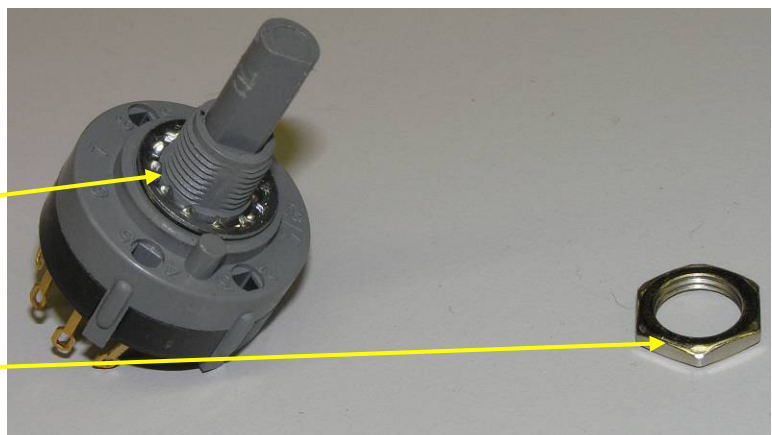

Figure 4: Rotating Switch Side View
7. Use an Allen wrench to loosen the hex head screw that secures the switch cap as shown in Figure 4.